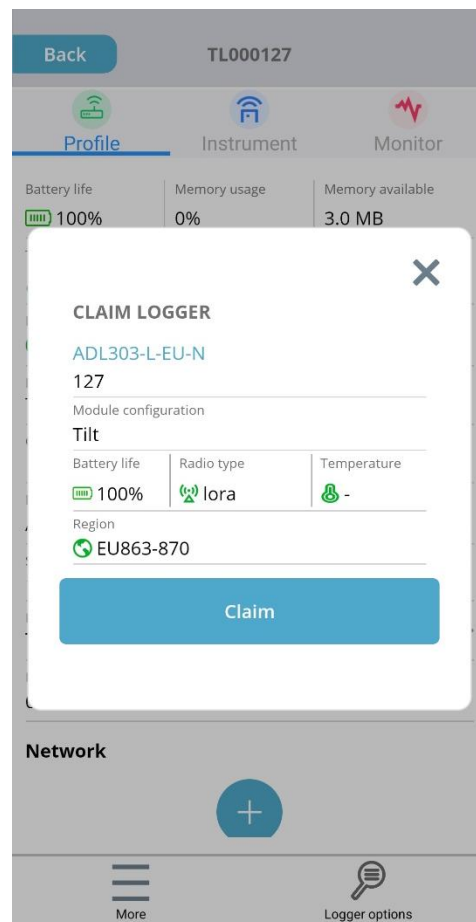

Figure 6: Claim Logger Window
1. If a Tilt Logger is currently Unclaimed, the Claim Logger Window will automatically appear, as shown in Figure 6.